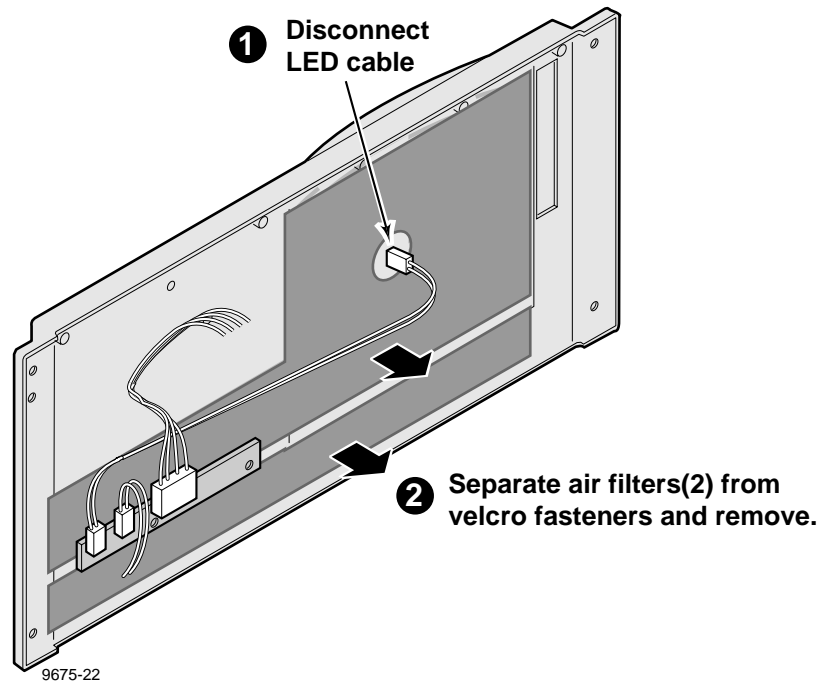

Figure 5-3. Power LED Cable and Filter Removal
8. Disconnect the power LED cable from the front panel. See Figure 5-3.
1. Attach the air filters to the velcro fasteners in the front panel (Figure 5-3).